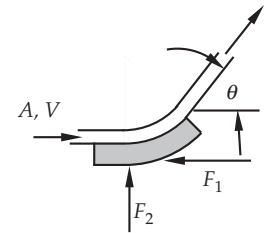

FIGURE P2.37.
37. A two-dimensional liquid jet is turned through an angle  $\theta$  ( $0^\circ < \theta < 90^\circ$ ) by a curved vane, as shown in Figure P2.37. The forces are related by  $F_2 = 3F_1$ . Determine the angle  $\theta$  through which the liquid jet is turned.